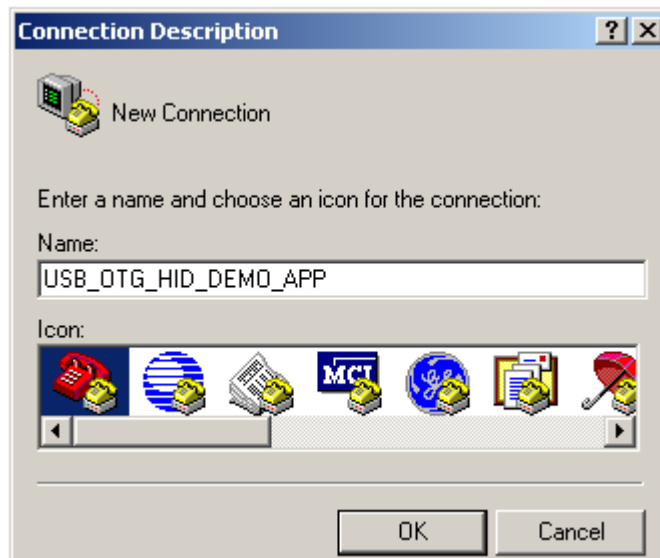

Figure A-9. HyperTerminal GUI
2. The HyperTerminal window is depicted in Figure A-9. You can specify a name of the current communication settings for further re-open actions.